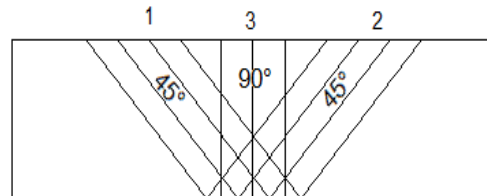

Figure E-2: Directions of sanding to remove marks of previous steps.(TIA, 2012)
5. After all impurities of one grade have been removed, surface dye should be applied again and the sanding of the next grade should commence until a grade of P2000 is reached. Each grade should be sanded at a different angle opposed to the previous grade, as illustrated in the Figure E-2.